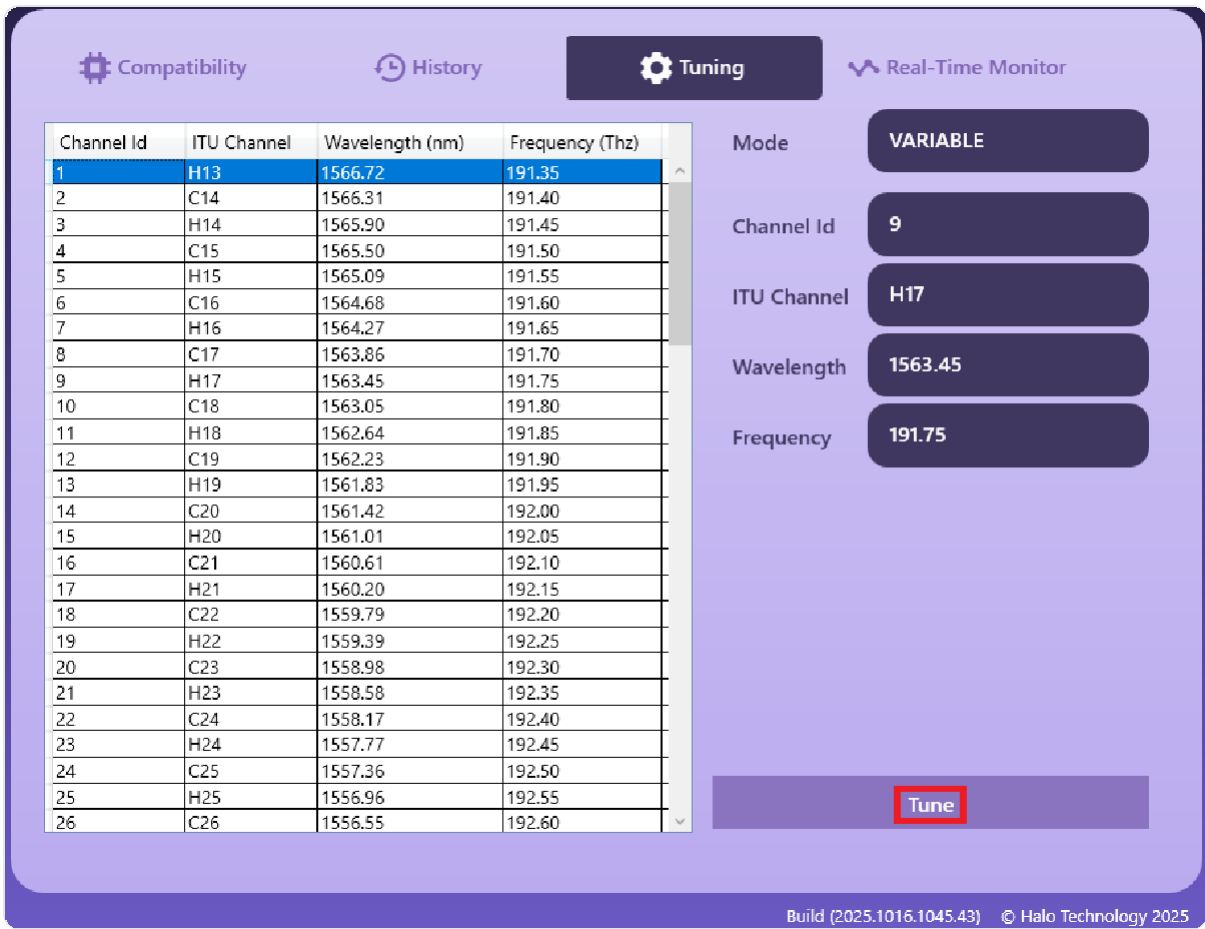

Figure 7 · Tuning tab — channel list with ITU channel, wavelength, and frequency
- 2 Open the **Tuning** tab and review the list of channels available for the inserted transceiver (Figure 7).